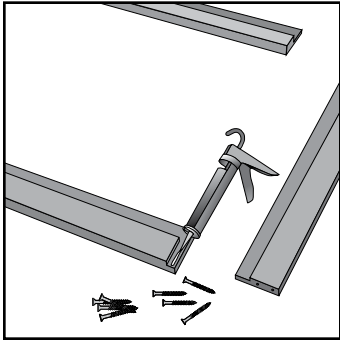

Fig. 10
2. Prior to assembly, apply a light bead of caulk along all connecting surfaces of jamb components for sealing and adhesion (**Fig. 10**).